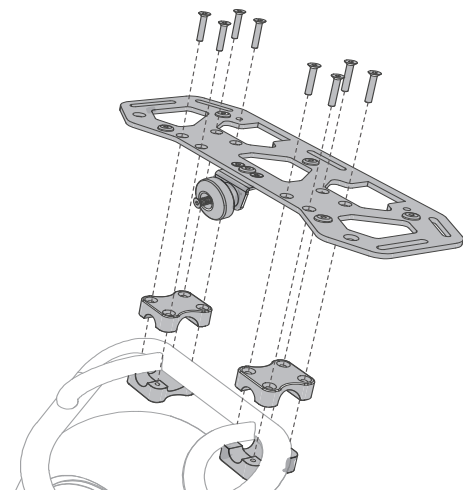

Figure 7. Install Cargo Clamps and Cargo Rack
4. Position the Cargo Clamps on the i2 SE Lower Cargo Frame as shown. The threaded clamps should be on the underside of the i2 SE Lower Cargo Frame. See **Figure 7**.
5. Position the Cargo Rack so it aligns with the Cargo Clamps as shown in **Figure 7**.